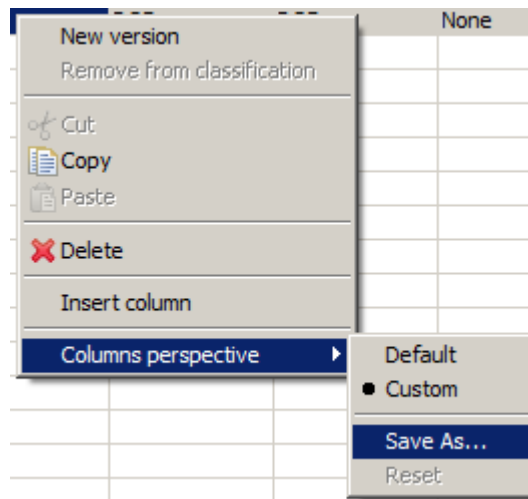

Figure 1. Selected Save as menu item
- Select **Columns Perspective** -> **Save as** menu item (see Figure 1).